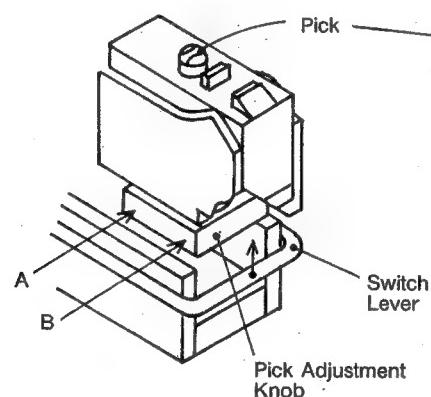
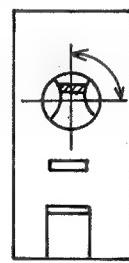

Fig. 7-7-1
Fig. 7-7-2
- 2) Push portion B of the Pick Adjustment knob as shown in figure 7-7-1 so that the Pick turns 90° and confirm that a tip portion of the Pick is set horizontally as shown in figure 7-7-2.